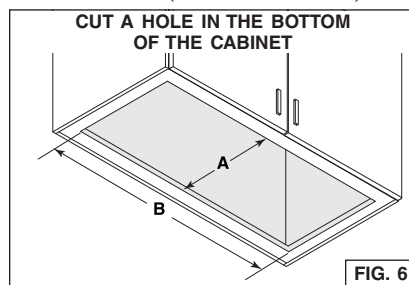

FIG. 6
- Cut a hole in the bottom of the cabinet, using the dimensions shown (FIG. 6), or use the optional liner as a template.